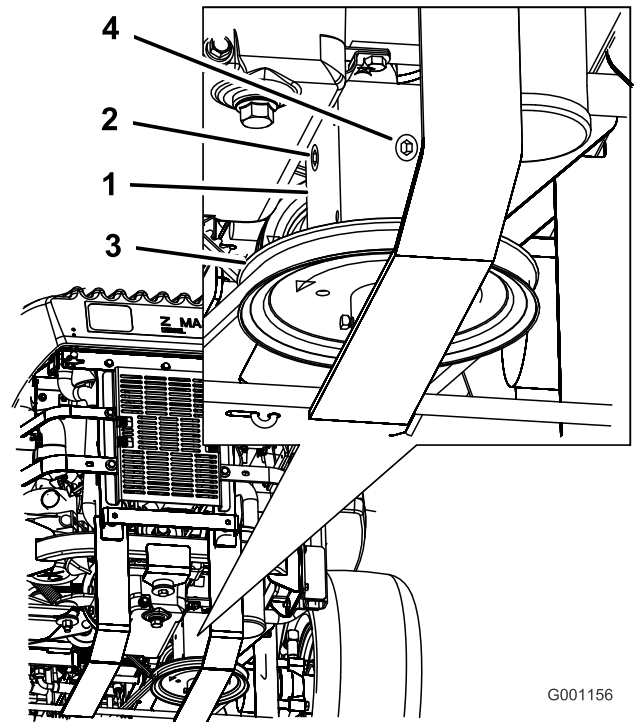

Figure 60
4. Remove the side or rear plug on the gear box. (Figure 60).